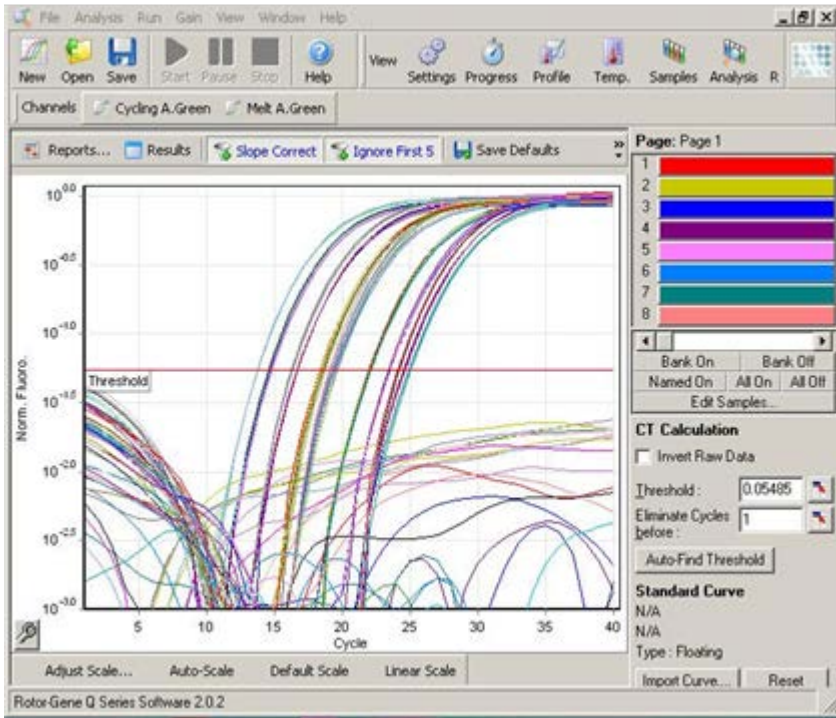

Figure 3. Setting the threshold.
- **To manually define the Threshold Value (Figure 3)**